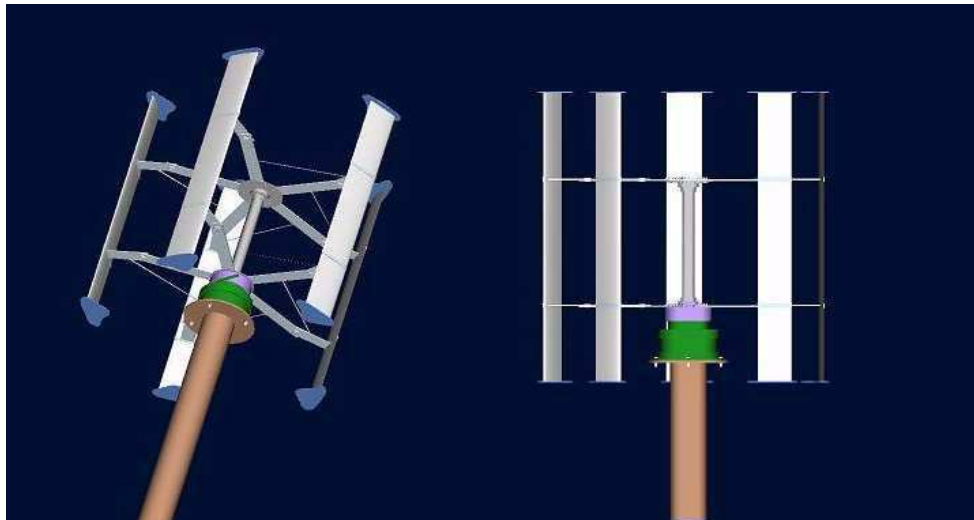

Fig 7
Step 6: Assemble the wind generator. Install the wind turbine on top of the tower and fasten with bolts, nuts, gaskets, and spring gaskets as shown in Figure 7.